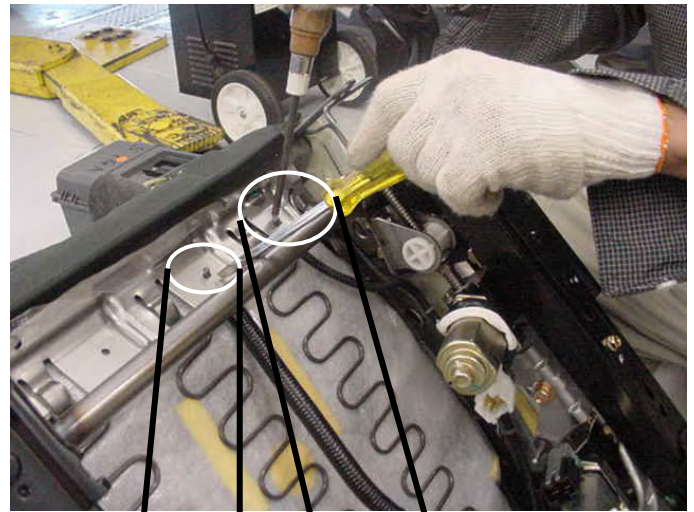

Figure 33
34. Remove both clips at the back of the seat cushion frame. (see Figures 33 and 34)